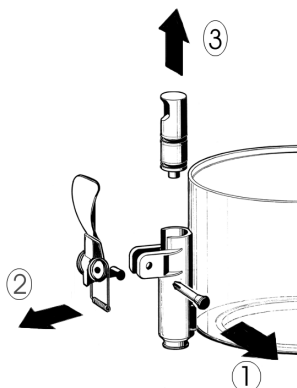

figure 1
3 Dismantle the faucet following the sequence shown (see fig. 1).
- 3** Reassemble the faucet assembly on the container in the opposite way to which it was dismantled (see fig. 1).